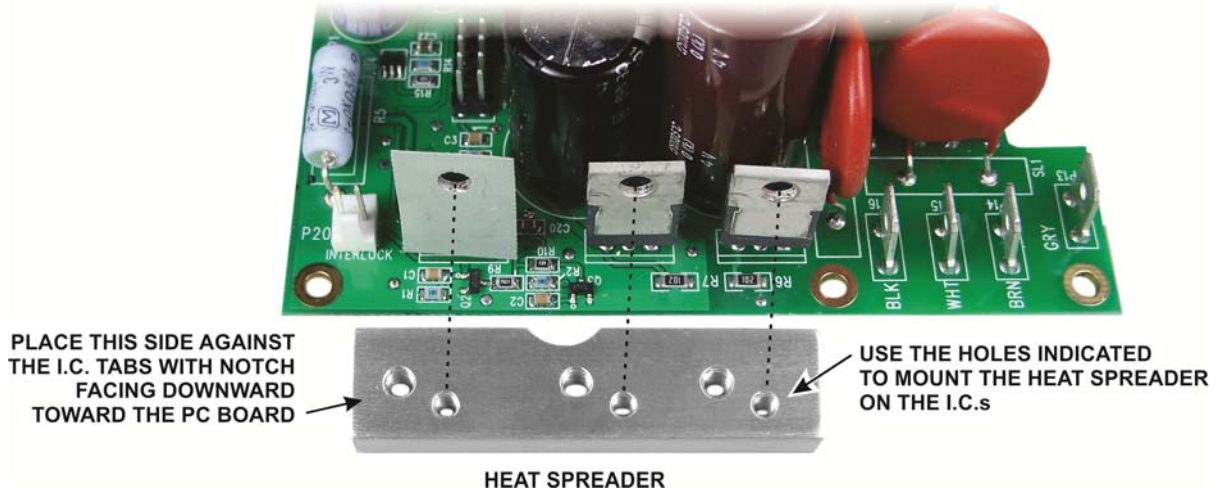

Figure 9. Power Supply Module Heat Spreader Orientation.
□ Locate the heat spreader (see Figure 9). Note that it has six threaded holes; three are larger than the others and the holes are spaced to match the spacing of the I.C.s on the power supply module. The three holes indicated in the figure will be used to attach the spreader to the I.C.s. The other three holes will be used later to attach the heat spreader to the KPA500's enclosure side panel. **The spreader must be oriented as shown or the larger holes will not line up with the holes in the side panel.**